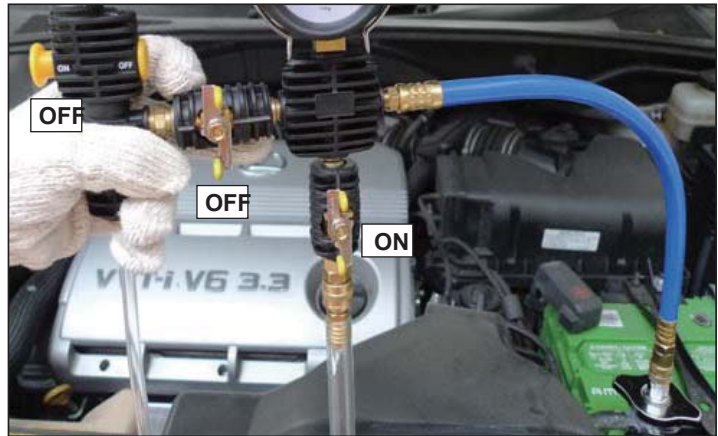

FIGURE 3
8. Connect the Coolant Hose to the Coolant Hose Connector (H).
10. Open the Coolant Valve (F) (while the Air Valve (C) is closed and the Air Switch (E) remains OFF), coolant will flow into the radiator immediately (as in Figure 3).